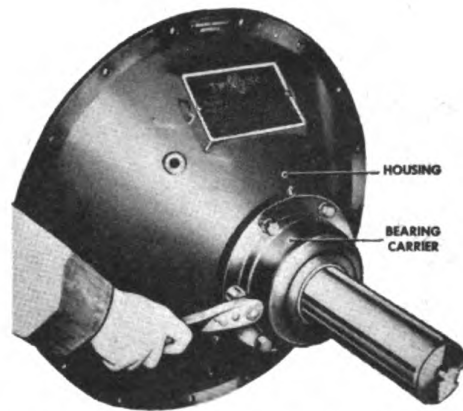

Figure 306. Removing Bearing Retainer Bolts.
B. Remove the bolts securing the bearing retainer to the clutch housing. See Figure 306.